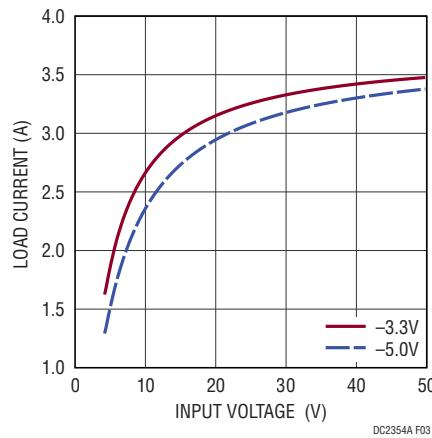

Figure 3. Output Current vs. Input Voltage Derating Charts
2. Turn on V_{OUT}⁻ of the circuit by inserting the shunt in header JP2 (RUN) into the ON position. The output voltage should be regulating. Measure V_{OUT}⁻ and it should measure -5.0V \pm 2%. Vary the current load, which should not exceed 4A. Vary the input voltage from 3.5V to 55V, the V_{OUT}⁻, it should measure -5.0V \pm 2%. Maximum load current is function of input voltage and should be changed accordance to derating graphs on Figure 3.